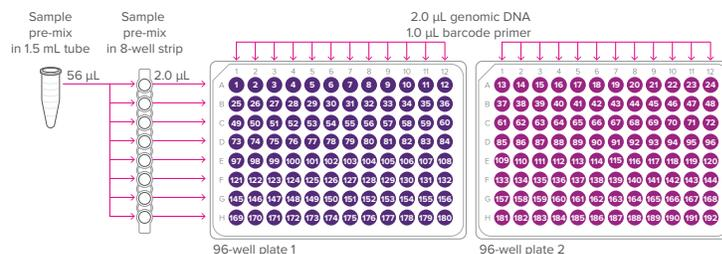

Figure 3. Preparation of sample mixes
- 3 Pipet 56 µL of the sample pre-mix into each well of a new 8-well strip (see Figure 3).
- 2 In a DNA sample hood, prepare the sample mixes by pipetting the components shown in Table 5 into each well of a new 96-well plate. Pipet reagents and samples according to the diagram shown in Figure 3. Use an 8-channel pipette to transfer the sample pre-mix from the 8-well strip.